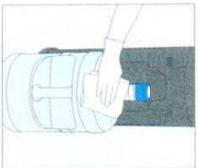

Figure 4-1
- 4. the outside of new bottle with a cloth (fig.4-1)